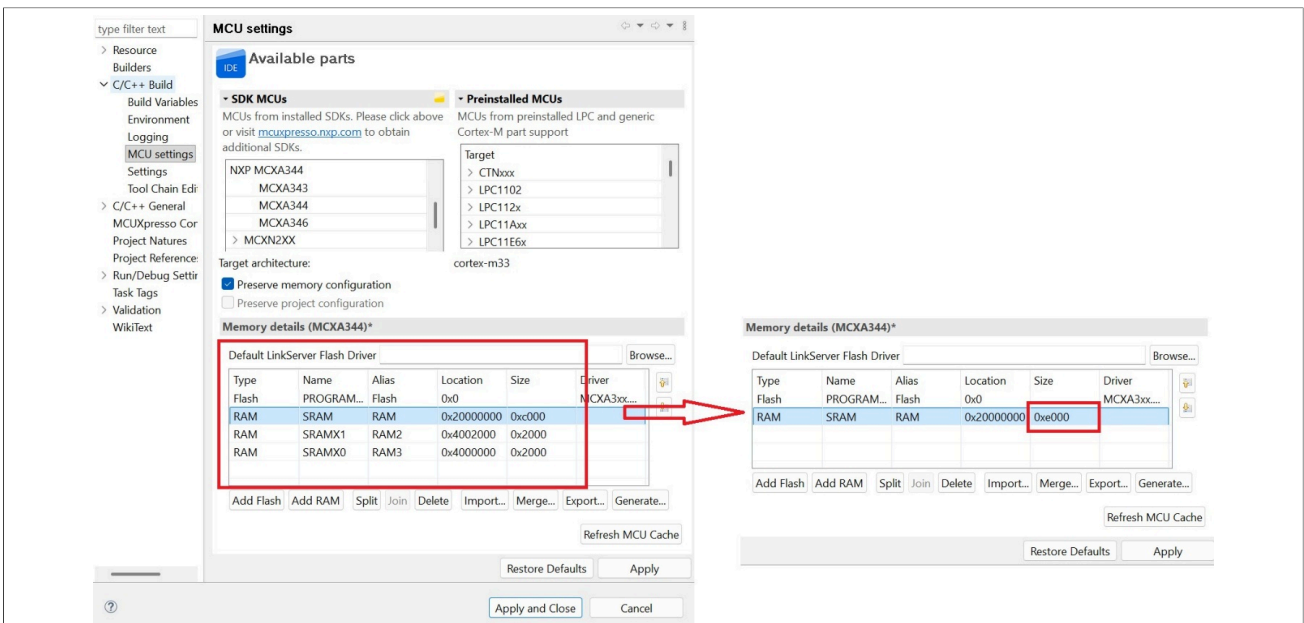

Figure 5. MCX A343 SRAM settings in MCUXpresso IDE
- For MCX A343, as shown in Figure 5: